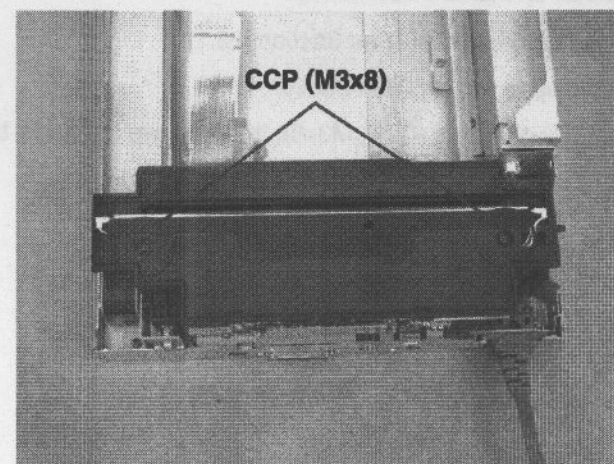

Figure 4-11. Disassembly of the Carriage Unit (1)
3. Remove 2 black screws (CCP, M3x8) on the carriage unit. (See Figure 4-11.)